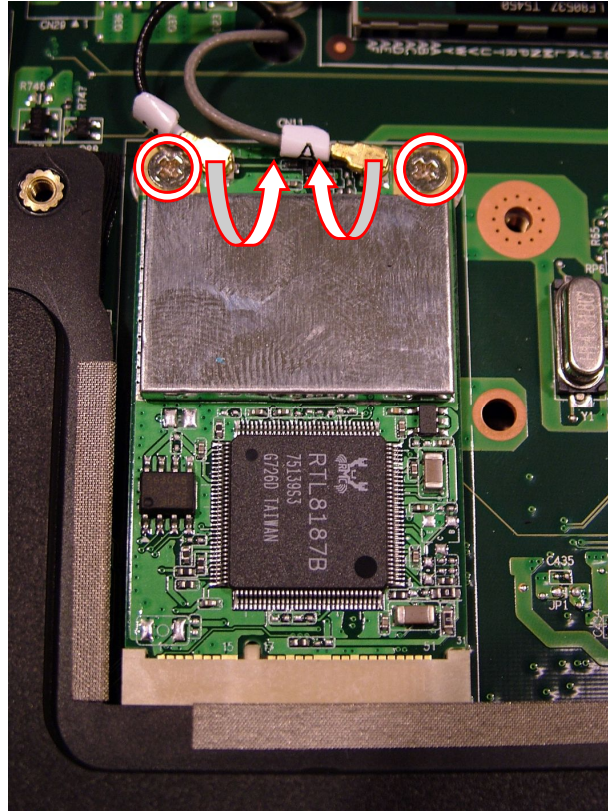

Fig. 7 Location of antenna cable connectors and screws.
3. Remove the 2 screws securing the adapter (see Fig. 7); the adapter will eject upwards.